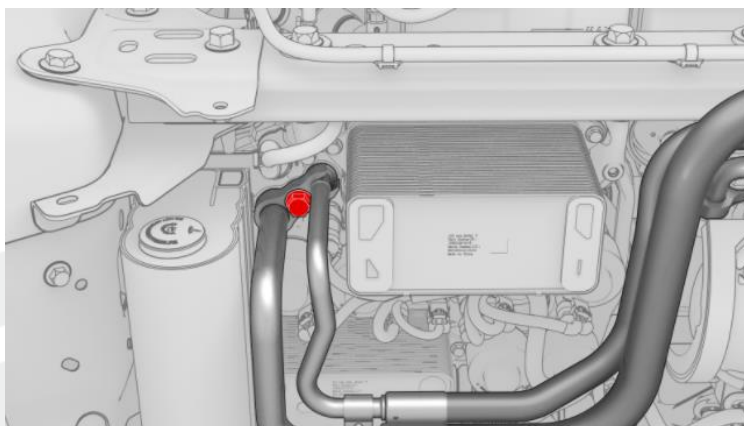
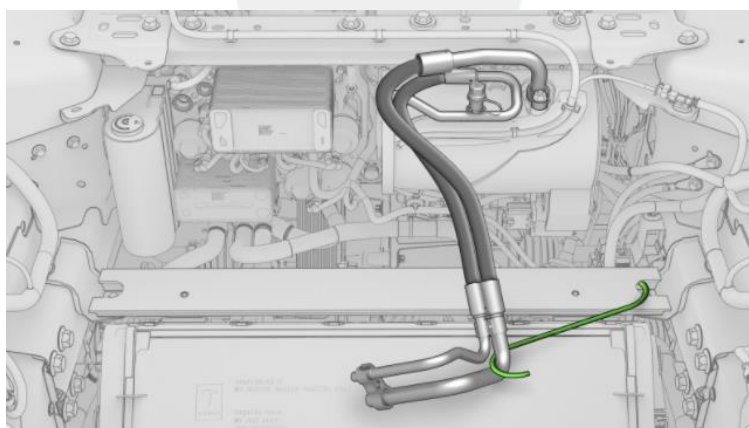

Figure 1
Figure 2
3. Remove the 13 mm bolt that attaches the Supermanifold-to-compressor A/C line to the Supermanifold (Figure 1).
4. Remove the Supermanifold-to-compressor A/C line from the Supermanifold, and then use an S-hook to restrain the line to the underhood storage unit support beam (Figure 2).
19. Release the Supermanifold-to-compressor A/C line from the S-hook (Figure 2), install the A/C line into the Supermanifold, hand-install the 13 mm bolt that attaches the A/C line to the Supermanifold, and then tighten (torque 22 Nm) (Figure 1).